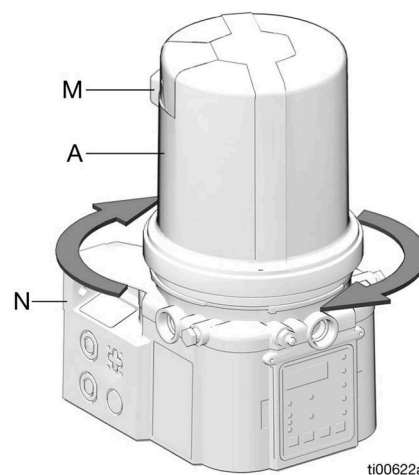

FIG. 12
1. Install new reservoir (1) with vent (M) facing toward the rear left (N) of the G3 base. See FIG. 12 for correct orientation of these parts to ensure proper installation.
3. Position strap wrench over reservoir and use it to turn reservoir 1/4 turn clockwise till reservoir will not turn any farther (FIG. 12).